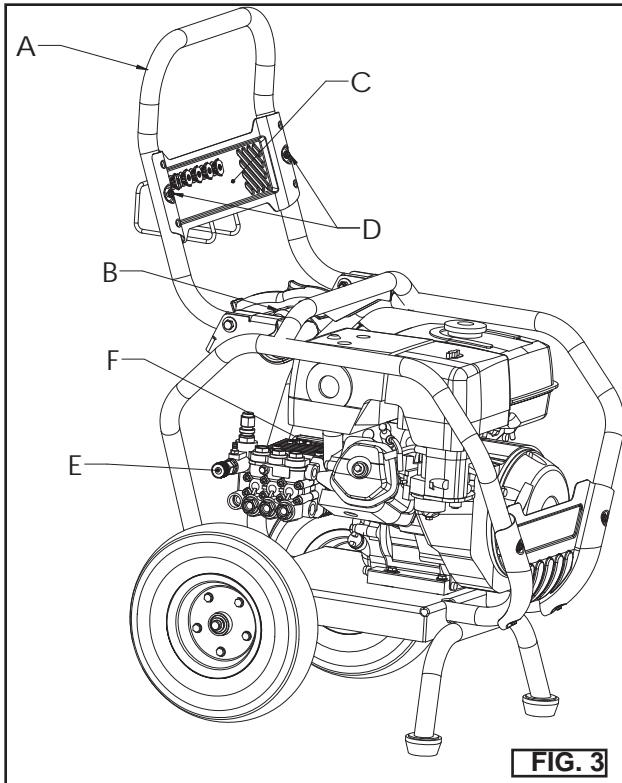

FIG. 3
3. Rotate the handle (A) up away from the pressure washer until it stops, pull out the pin (B) and rotate the handle until it stops. Let go of the pin and move the handle slightly to lock in place.
5. Attach the nozzle panel (C) to the handle (A) with the 2 screws (D) provided as shown in Fig. 3. Insert the 5 nozzle tips into the grommets on the panel.
6. Connect high-pressure hose to pump outlet (E). Tighten securely. (Fig. 3)